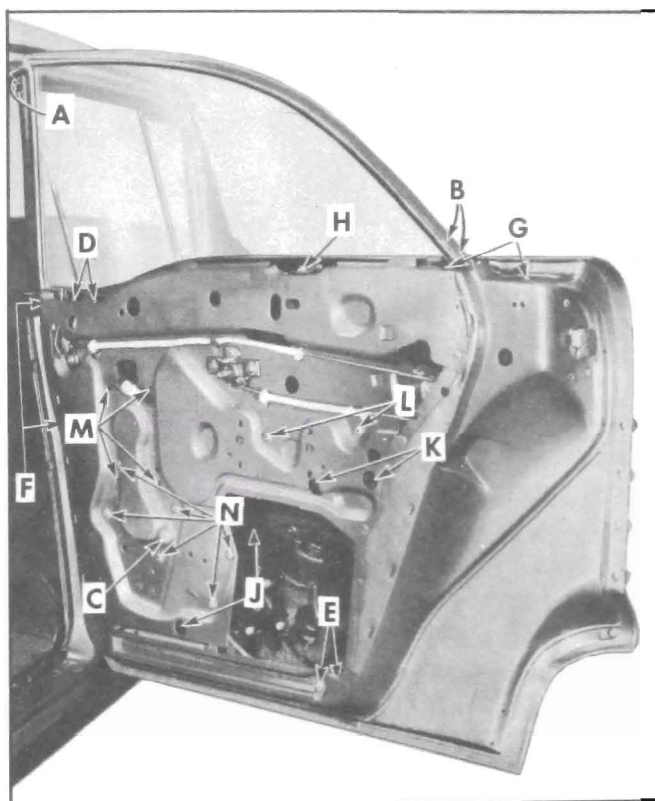

Figure 13-59—Rear Door Window Glass Removal
2. At front of window assembly, pull rear door window frame weatherstrip downward sufficiently to remove two (2) window upper frame attaching screws indicated at "A" in Figure 13-59.
3. Remove two (2) window upper frame rear attaching screws indicated at "B" in Figure 13-59.
and install upper frame attaching screws "A" and "B." (See Figure 13-59.)
2. Remove window guide cam center attaching stud and nut "C" and upper and lower attaching screws "D" and "E" shown in Figure 13-59.
2. Remove window front guide upper and lower attaching screws "F" located at door hinge pillar. (See Figure 13-59.)
2. Remove rear guide attaching screws "G" shown in Figure 13-59, and remove rear guide through large access hole.
1. Lower rear door window to FULL DOWN position—Remove door belt finishing molding and loosen window cushion adjusting plate attaching screws at "H" shown in Figure 13-59.
2. Remove one (1) sealing strip attaching screw at each end of molding. Carefully pry sealing strip clips out of holes in return flange of door outer panel and remove sealing strip from door.
2. Remove window lower sash channel front cam attaching screws through access holes "J" and rear cam attaching screws through access holes "K" shown in Figure 13-59; disengage cams from window regulator arms and remove cams from door.
4. Remove inner panel cam attaching screws "L" shown in Figure 13-59; disengage cam from regulator arm and remove from door.
5. On doors with electric window regulators, remove the window guide cam attaching stud and nut "C" and lower attaching screws "E" (one (1) screw located inside door.) See Figure 13-59.
6. Remove manual regulator attaching screws at locations "M," or electric regulator attaching screws "N" shown in Figure 13-59. Move window guide cam towards outside of door sufficiently to remove regulator from between guide cam and door inner panel; then remove regulator from door through large access hole.